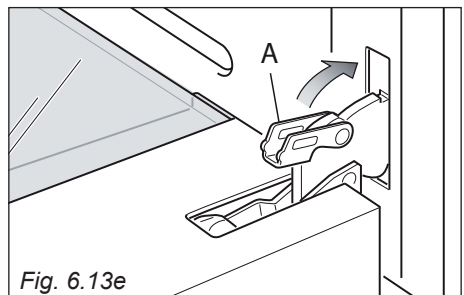

Fig. 6.13e
- Unlock the oven door by opening it completely and closing the lever “A” on the left and right hinges (fig.6.13e).